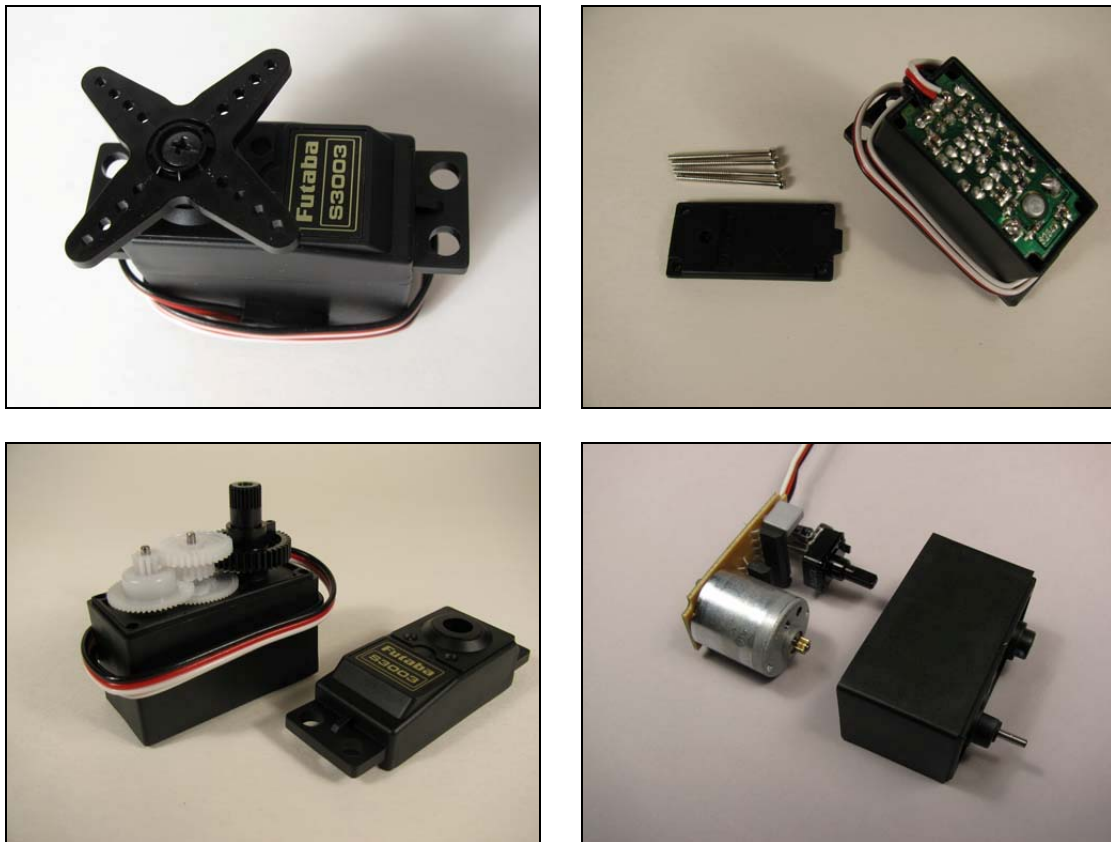

Figure 1: Hobby Servo in Various Stages of Disassembly
- Introduction: A servo is a small device that incorporates a three wire DC motor, a gear train, a potentiometer, an integrated circuit, and an output shaft bearing (Figure 1). Of the three wires that stick out from the motor casing, one is for power, one is for ground, and one is a control input line. The shaft of the servo can be positioned to specific angular positions by sending a coded signal. Most servos have an angular position range of 180 degrees (check your servo). As long as the servo receives the coded signal on the input line, the servo will maintain the angular position of the shaft. If the coded signal changes, then the angular position of the shaft changes. Typically, a servo is used in hobby applications such as controlling steering for an RC (radio-controlled) car or the rudder for an RC airplane.